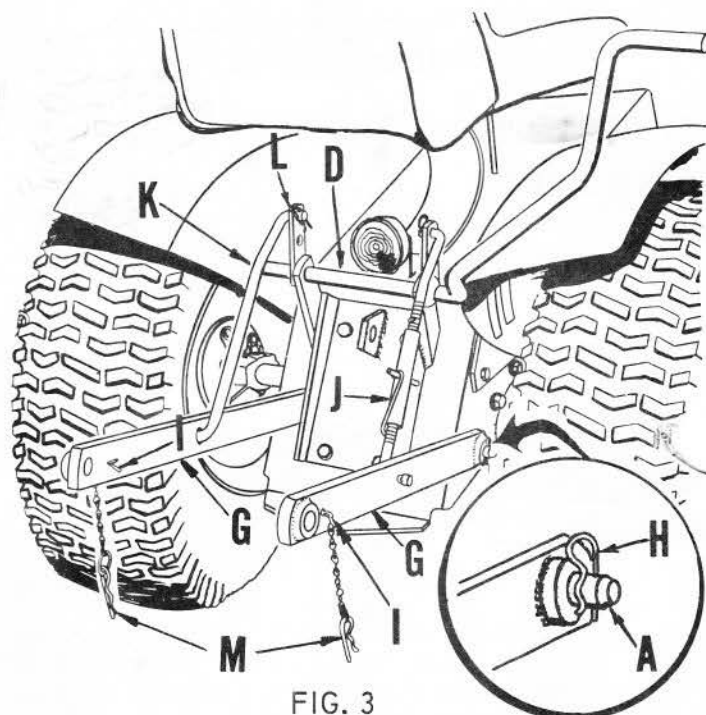

FIG. 3
6. Refer to Fig. 3. Assemble lower hitch bar and bushings (G), over lower link pins (A). Secure by inserting retainer springs (H), through holes in outer ends of lower link pin (A). Both R.H. and L.H. sides.
7. Assemble cotter pins of chain, ring and cotter assembly (I), to lower hitch bar and bushings (G), as shown in both R.H. and L.H. sides, refer to Fig. 3. Spread ends of cotter pins to secure.
8. Refer to Fig. 3. Assemble upper and lower links (J), "turnbuckle with spring", to R.H. lower hitch bar (G), and in outer hole in arm on hitch mounting assembly (D), as shown. Secure with 5/32 x 1 cotters.
NOTE: Offset in lift links to top as shown in Fig. 3.
9. See Fig. 3. Assemble lift link - L.H. (K), to L.H. side in like manner and also secure with 5/32 x 1 cotters.
- NOTE: Offset of L.H. lift link (K), must also be to top as shown and it must also be assembled to outer hole (L), in arm of hitch mounting assembly (D).
10. Assemble retainer spring (M), to ring of chain, ring and cotter assembly (I), refer to Fig. 3.